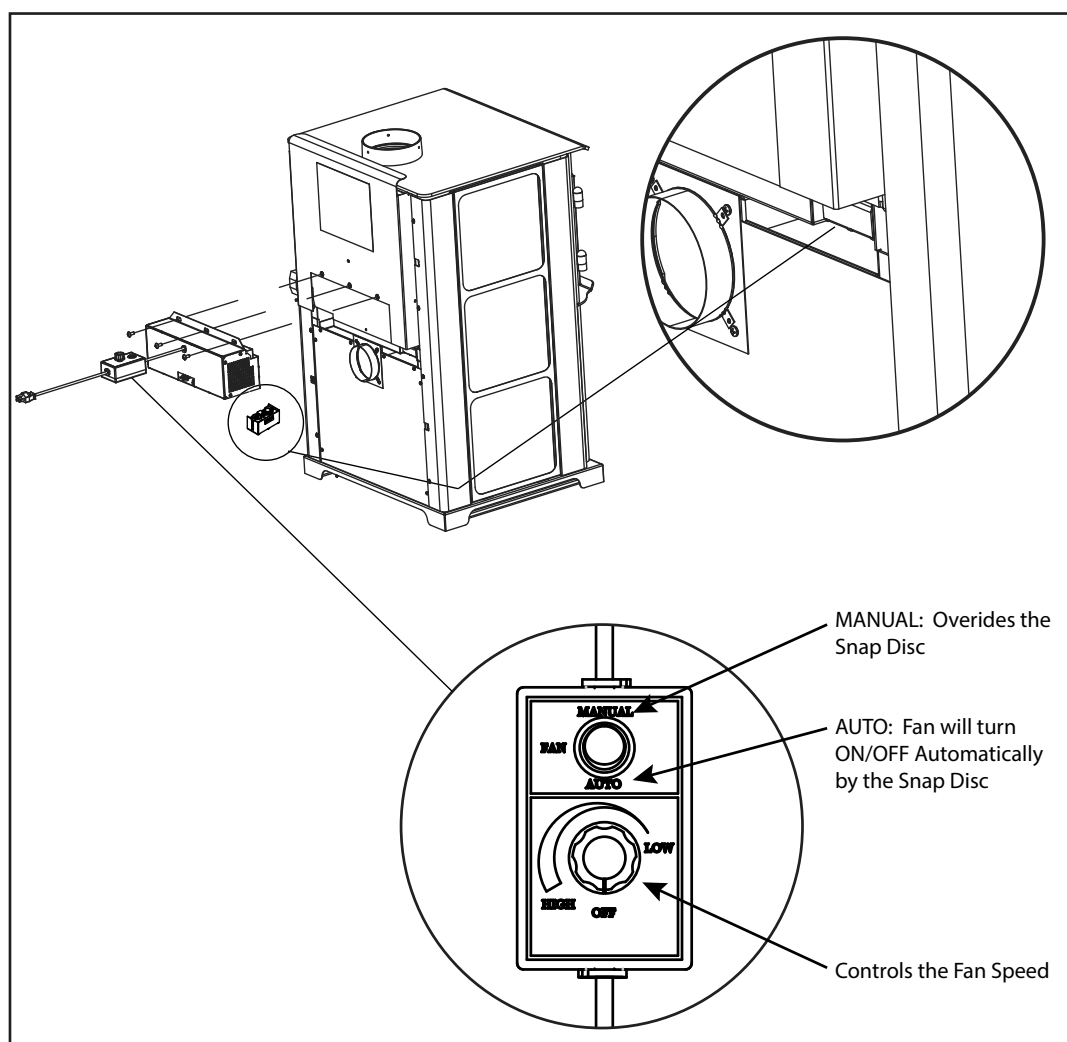

Figure 17.2
2. Align holes in mounting flange of blower with bolt holes in appliance. Blower should be positioned at bottom of rear outer skin as shown in **Figure 17.2**